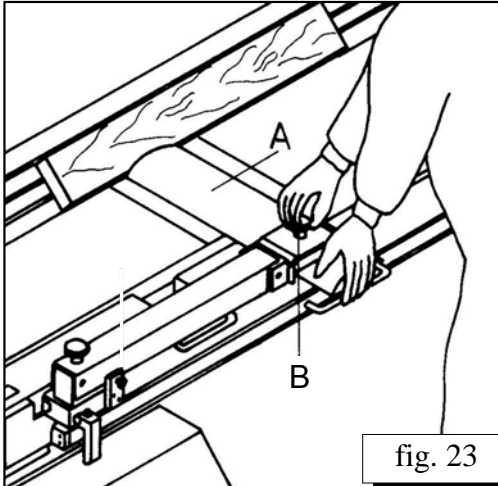

fig. 23
Smoothing under inclination or bevel /fig. 23/
- The piece and the guard of the cutting shaft are positioned as shown on fig. 23.